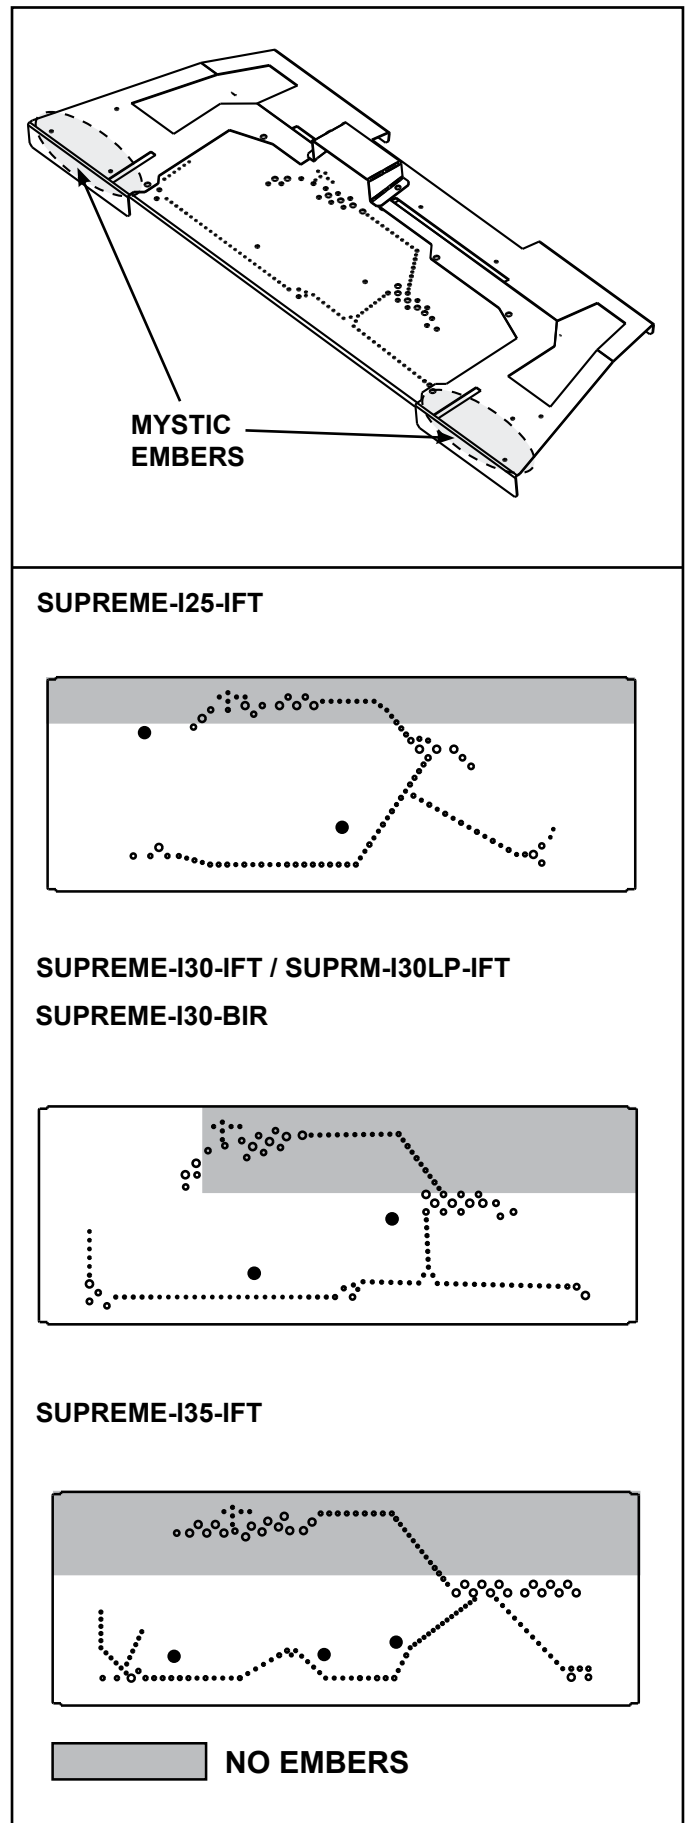

Figure 9.5 Placement of Embers
- Use mystic embers to mask transition between base refractory and base pan. See Figure 9.5.
- Embers CANNOT be placed directly over burner ports that are indicated in Figure 9.5 or in pilot area as indicated in Figure 9.5.
- Embers may be placed on the ports in areas indicated in Figure 9.5. These embers must be placed loosely over the port holes, not pressed down on or into the holes. Create a single layer, no more than 1/4 inch thick.